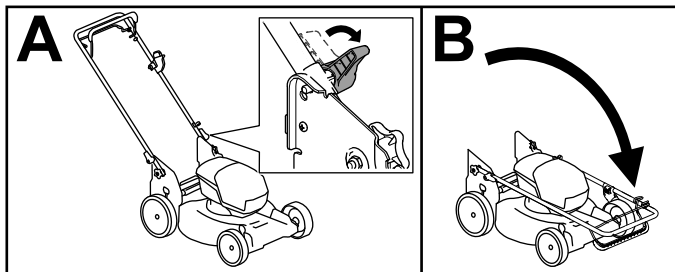

Figure 15
4. Disengage the handle locks until you can move the upper handle freely (A of Figure 15).
5. Fold the handle forward to the fully forward position (B of Figure 15).
6. To unfold the handle, repeat step A of Figure 15 and fold the handle to the operating position.